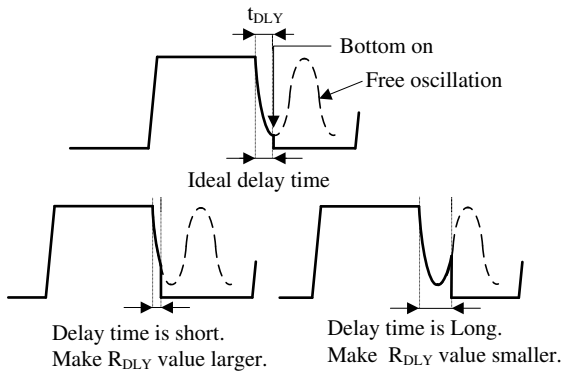

Figure 8-11 Turn-on timing of V_{DS}
Figure 8-10 shows relationship between R_{DLY} value and t_{DLY} value (IC design). As shown in Figure 8-11, the value of R_{DLY} adjusts the turn-on timing to the bottom
The range of R_{DLY} is 15 kΩ to 56 kΩ. The ideal delay time shown in figure 8-11 is given by Equation (3), and it depends on L_P and C_V .